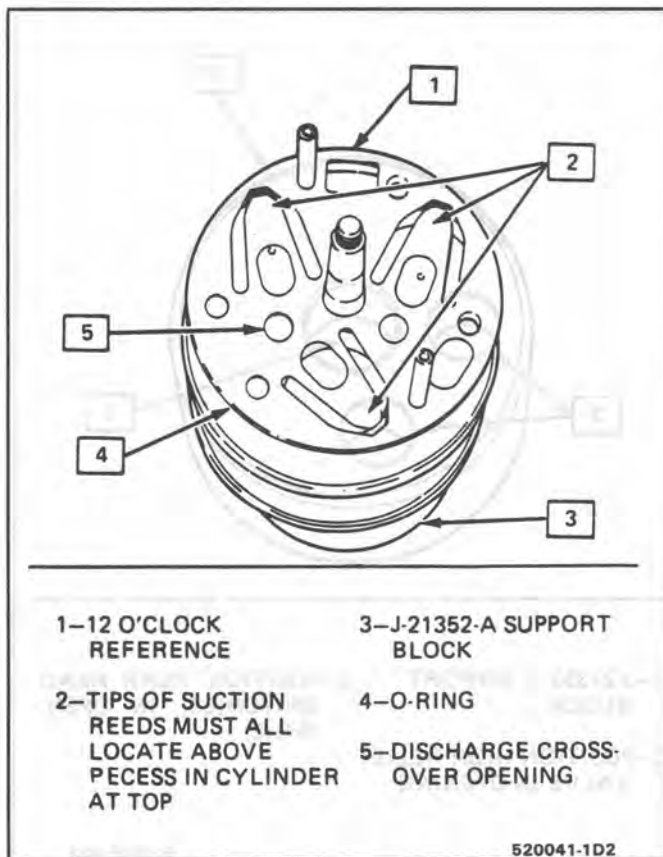

Fig. 40 Suction Reed Installed On Front of Cylinder
2. Lubricate a new cylinder to front head O-ring with clean 525 viscosity refrigerant oil and install O-ring in front cylinder O-ring groove (Fig. 40).
3. Install suction reed plate over the J-33016 guide pins as shown (Fig. 40).
11. Assemble the suction reed plate over the guide pins and position as shown (Fig. 40). Be sure tips of all three suction reeds locate above a recess at top of cylinders or the reed plate is improperly assembled.